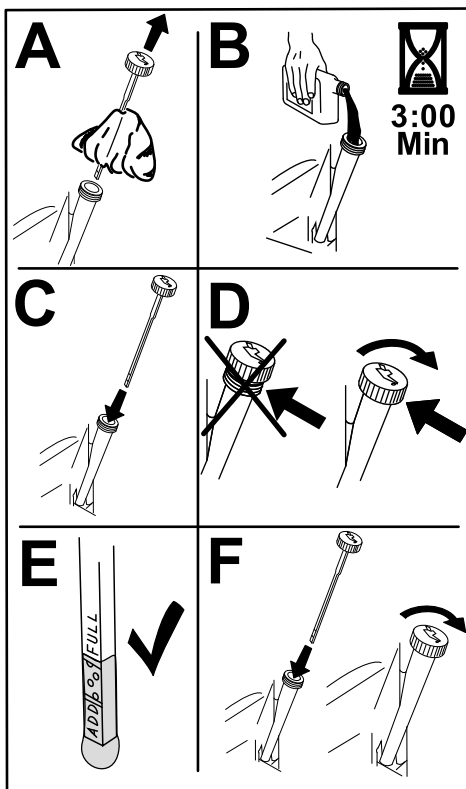

Figure 42
6. Slowly pour approximately 80% of the specified oil into the filler tube and slowly add the additional oil to bring it to the **Full** mark (Figure 42).